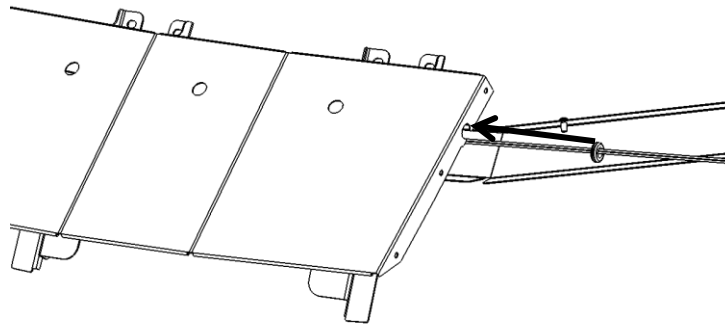

Figure 9
- ii. Slide grommets (on WH-EX) into side of center visor section (see figure 9)